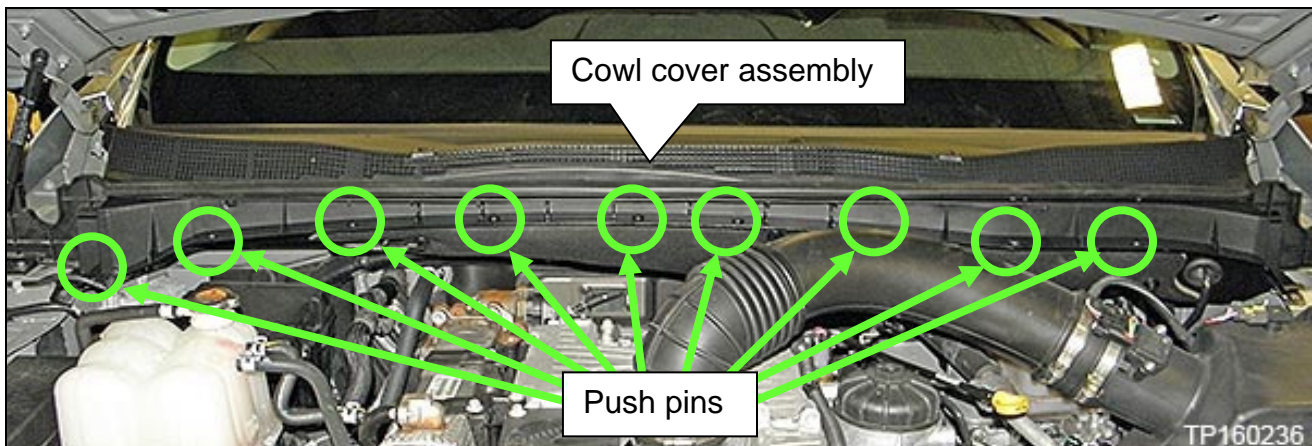

Figure 6
6. Remove the nine (9) push pins that hold the front edge of the cowl cover assembly (Figure 6).